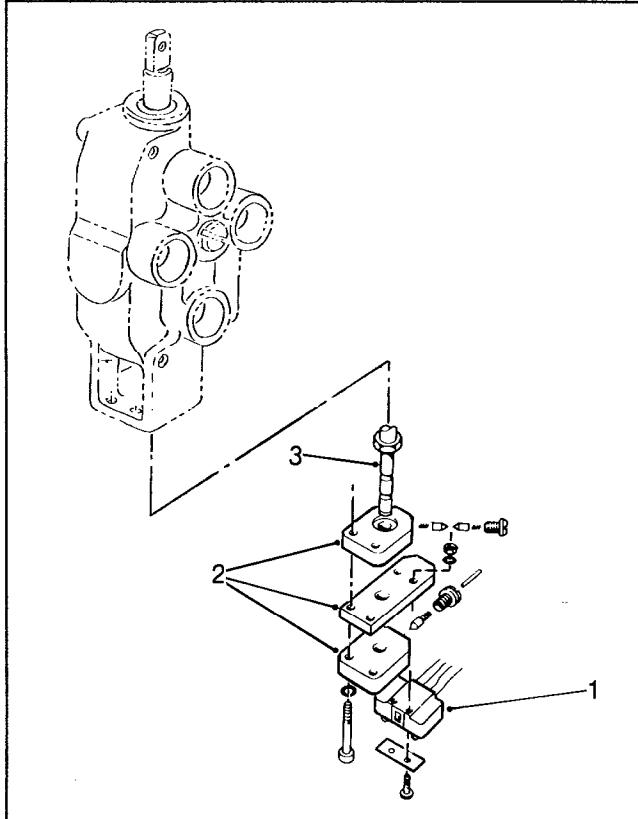

Figure 1
2. Remove and discard the (2) detent blocks, mounting plate and spool extension from the bottom of the valve (Fig. 1).